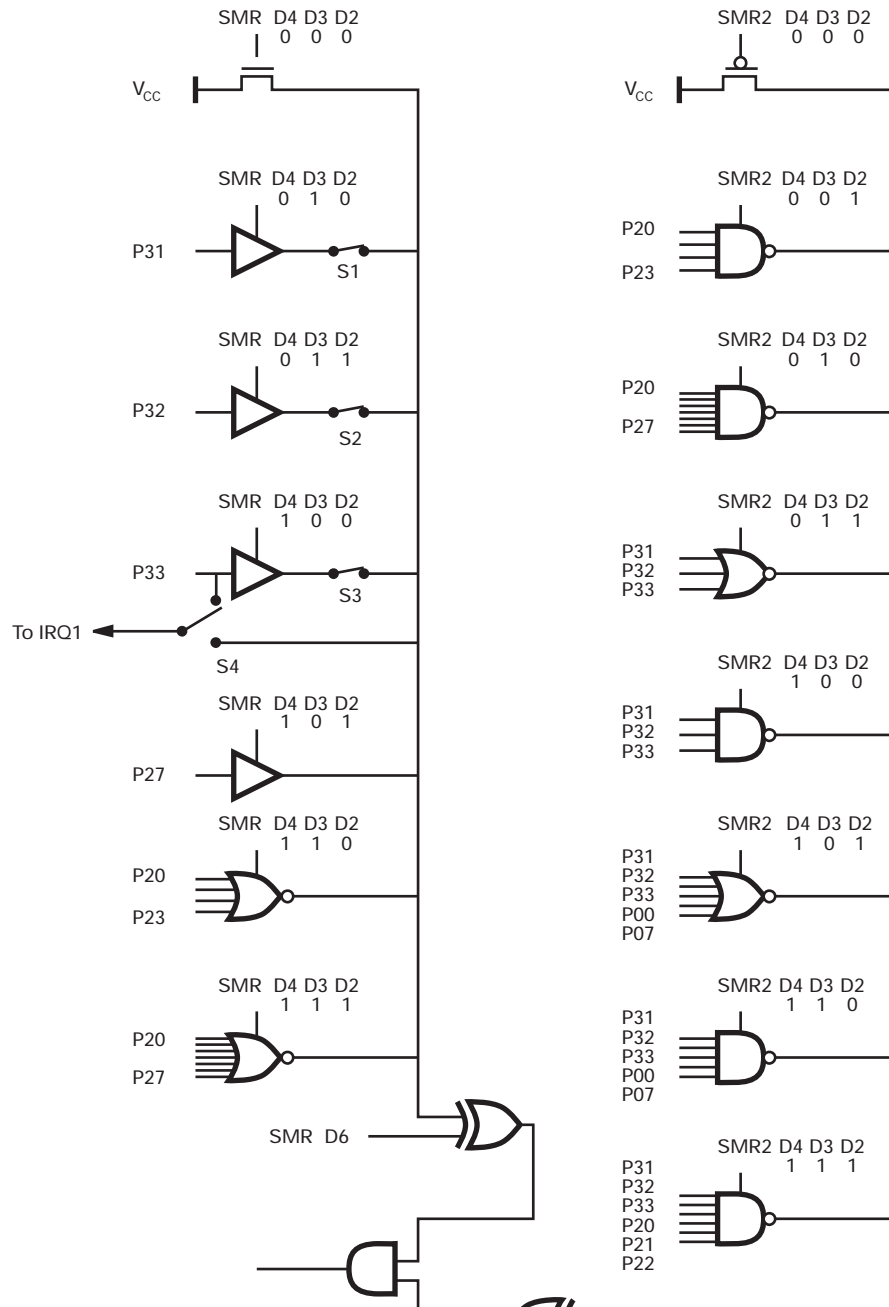

Figure 7. Stop Mode Recovery Source
**Stop Mode Recovery Source (D2, D3, and D4).** These three bits of the SMR specify the wake up source of the Stop Mode Recovery (Figure 7 and Table 5).
The POR clock source is selected with Bit 4 of the WDT register. Bits 0 and 1 control a tap circuit that determines the time-out period. Bit 2 determines whether the WDT is active during HALT, and Bit 3 determines WDT activity during STOP. Bits 5 through 7 are reserved (Table 7). This register is accessible only during the first 60 processor cycles (120 crystal clocks) from the execution of the first instruction after Power-On-Reset, Watch-Dog Reset, or a Stop Mode Recovery (Figure 7). After this point, the register cannot be modified by any means, intentional or otherwise. The WDTMR cannot be read and is located in Bank F of the Expanded Register Group at address location 0Fh.